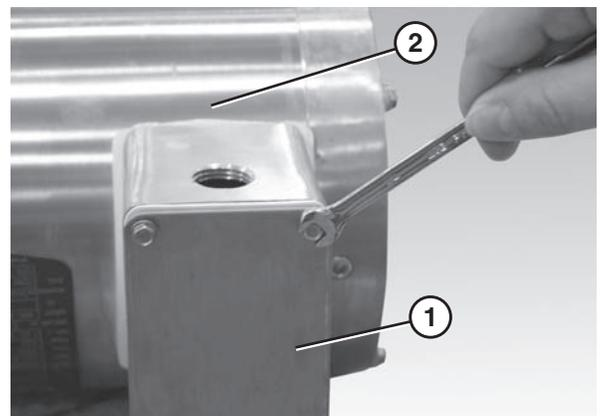

Figure 42
- Loosen the screws and remove the cover (Figure 42, item 1) from the junction box located on the side of the motor (Figure 42, item 2).